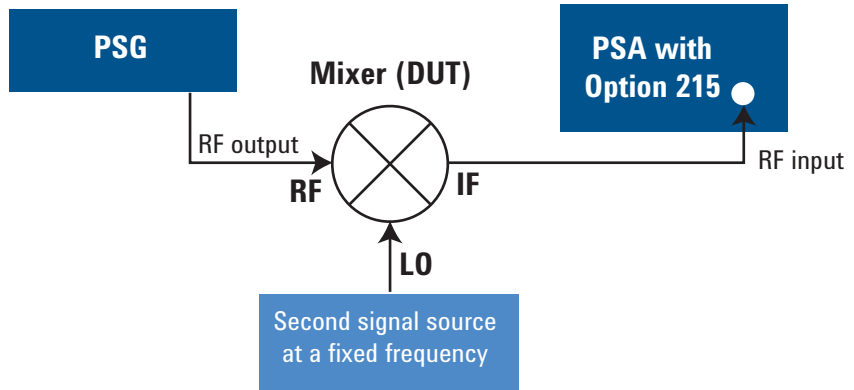

Figure 11. Set up for mixer tests
Connect the RF input and IF output of the mixer to the PSG RF output and the PSA RF input, respectively. For the mixer tests we need an additional signal source to generate a CW signal with a fixed frequency as the LO input. Refer to Figure 11 for the test system set up.
In equation (2), the positive sign means the PSG sweeps at the “normal” direction (start frequency < stop frequency), whereas the negative sign means the “reverse” direction (start frequency > stop frequency). The following demo shows how to configure a “reverse sweep” for the hardware set up shown in Figure 11.